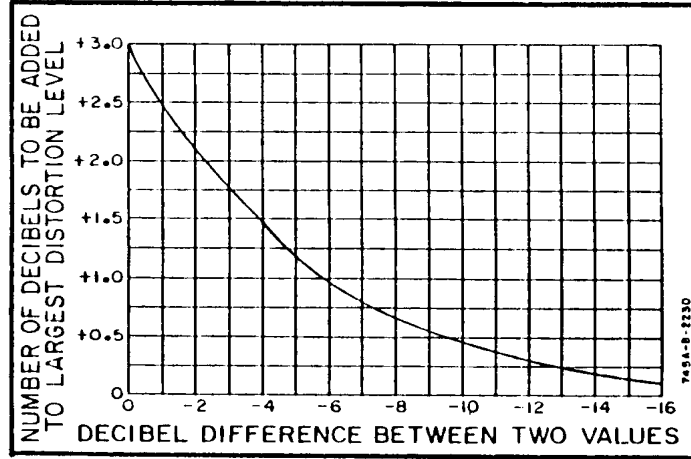

Figure 4. Addition of harmonic components.
- (4) Set spectrum analyzer **CENTER FREQUENCY** to 20 Hz, **FREQUENCY SPAN** to 100 Hz, and **IMPEDANCE** to 1 MΩ.
- (5) Adjust spectrum analyzer to indicate center frequency and record amplitude.
- (6) Press calibration fixture **MODE** pushbutton to **NOTCH** (in).
- (7) On 20 Hz measurements only, press calibration fixture **ATTEN** pushbutton to **-60 dB** (in).
- (8) Adjust spectrum analyzer to indicate second harmonic. Record amplitude.
- (9) Record difference between amplitude recorded in (8) above and amplitude recorded in (5) above. This is second harmonic amplitude.
- (10) Adjust spectrum analyzer to indicate third harmonic. Record amplitude.
- (11) Record difference between amplitude recorded in (10) above and amplitude recorded in (5) above. This is the third harmonic amplitude.
- (12) Calculate total harmonic distortion using figure 4.
If second harmonic in (9) above, is -110 dB and third harmonic in (11) above is -114 dB, dB difference is -4 dB. In figure 4 this intersects the curve at +1.5 level. The total harmonic distortion is the largest harmonic amplitude plus number determined in figure 4, (-110 dB + 1.5 dB = -108.5 dB).
- (13) Total harmonic distortion (THD) will be less than -93 dB.
- (14) Repeat technique of (3) through (13) above for each setting listed in table 7. THD will be within limits specified.
- (5) Adjust spectrum analyzer range to +10dB, sweep time to 20 Sec, and sweep to **CONT**.
- (6) Adjust spectrum analyzer control knob to peak the marker amplitude and the frequency control for a 1-kHz center frequency. After a few sweeps, press **SINGLE**. Record spectrum analyzer dB indication.
- (7) Set **FUNCTION** switch to **DISTORTION**.
- (8) Adjust **DISTORTION RANGE** control for an upscale reading or until TI reaches -80 dB.
- (9) Add **DISTORTION RANGE** switch setting and spectrum analyzer dB indication of center frequency. Total dB change will be greater than 100 dB below indication recorded in (6) above.
- (10) If fundamental rejection is not >-100 dB, perform **b** below.
- (11) Adjust spectrum analyzer to observe amplitude of second harmonic of center frequency.
- (12) Add **DISTORTION RANGE** switch setting and spectrum analyzer dB indication. Subtract this value from indication recorded in (6) above and record.
- (13) Adjust spectrum analyzer to observe amplitude of third harmonic of center frequency.
- (14) Add **DISTORTION RANGE** switch setting and spectrum analyzer dB indication. Subtract this value from indication recorded in (6) above and record.
- (15) Calculate the induced harmonic distortion using figure 4.
Determine the difference in amplitude of second harmonic in (12) above and third harmonic in (13) above. Add dB number in figure 4 to largest value of harmonic amplitude.
(16) Induced distortion will be <-95 dB.
(17) Repeat technique of (1) through (16) above for fundamental rejection and induced distortion measurements using settings listed in table 8. Fundamental rejection and induced distortion indications will be within limits specified.